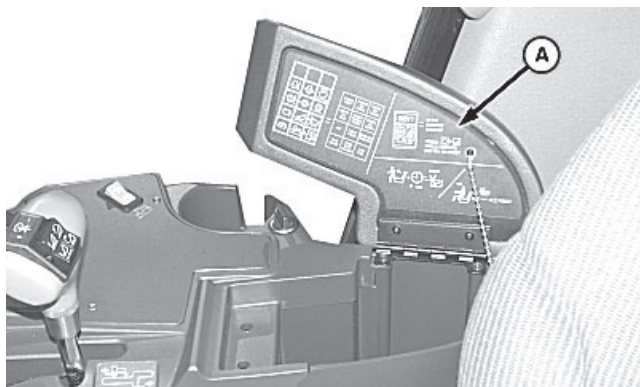

Figure 30. Storage
The decal (A) shows the following information (see Figure 30):